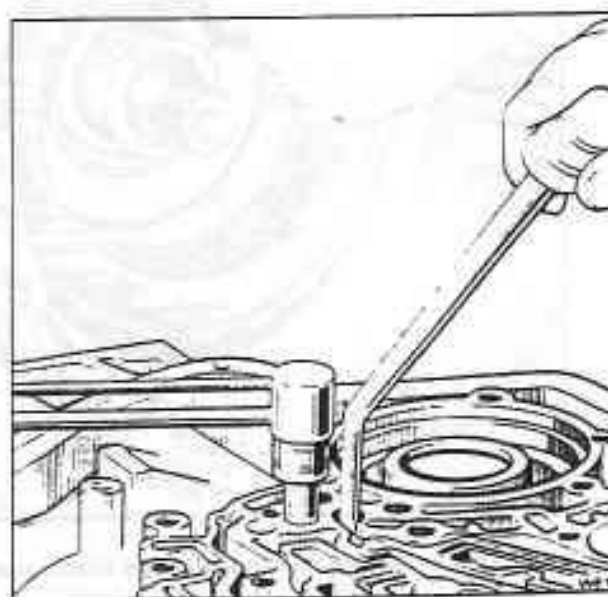

Fig. T19-22 Locating the centre support
10. While holding the centre support firmly anti-clockwise against the case splines, torque tighten the case to centre support bolt to the figures quoted in Section T22, using a $\frac{3}{8}$ in UNC 12 point thin wall, deep socket (see fig. T19-22).